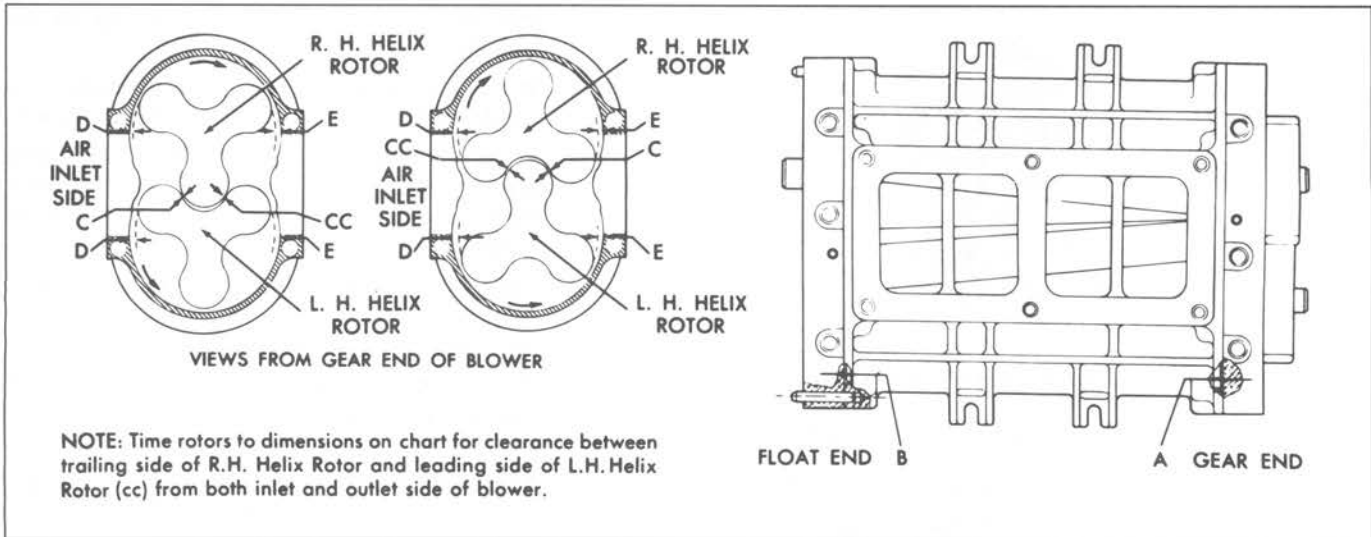
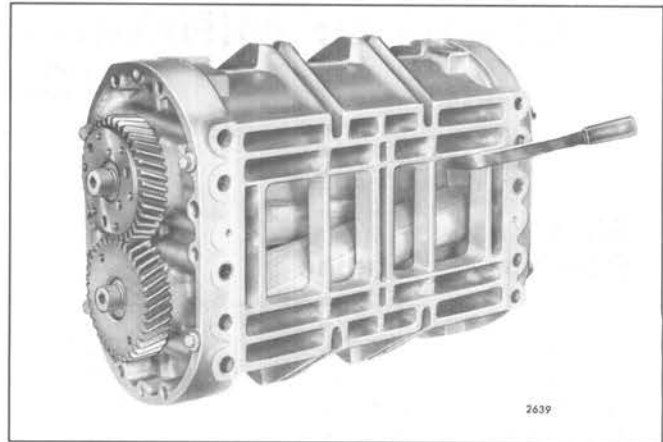

Fig. 23 – End View of Blower Rotor Clearances
Fig. 25 – Measuring End Clearance Between Blower Rotors and End Plate
4. Make a preliminary check of the rotor-to-end plate and rotor-to-housing clearances at this time with a feeler gage (Fig. 25). Refer to Fig. 23 for minimum blower clearances.
8. Determine the minimum clearances at points "A" and "B" (Fig. 23). Insert the feeler gages between the end plates and the ends of the rotors (Fig. 25). This operation must be performed at the ends of each lobe, making 12 measurements in all. Refer to Fig. 23 for the minimum clearances.
9. Check the clearance between each rotor lobe and the blower housing at both the inlet and outlet side — 12 measurements in all. Refer to Fig. 23 for the minimum clearances.